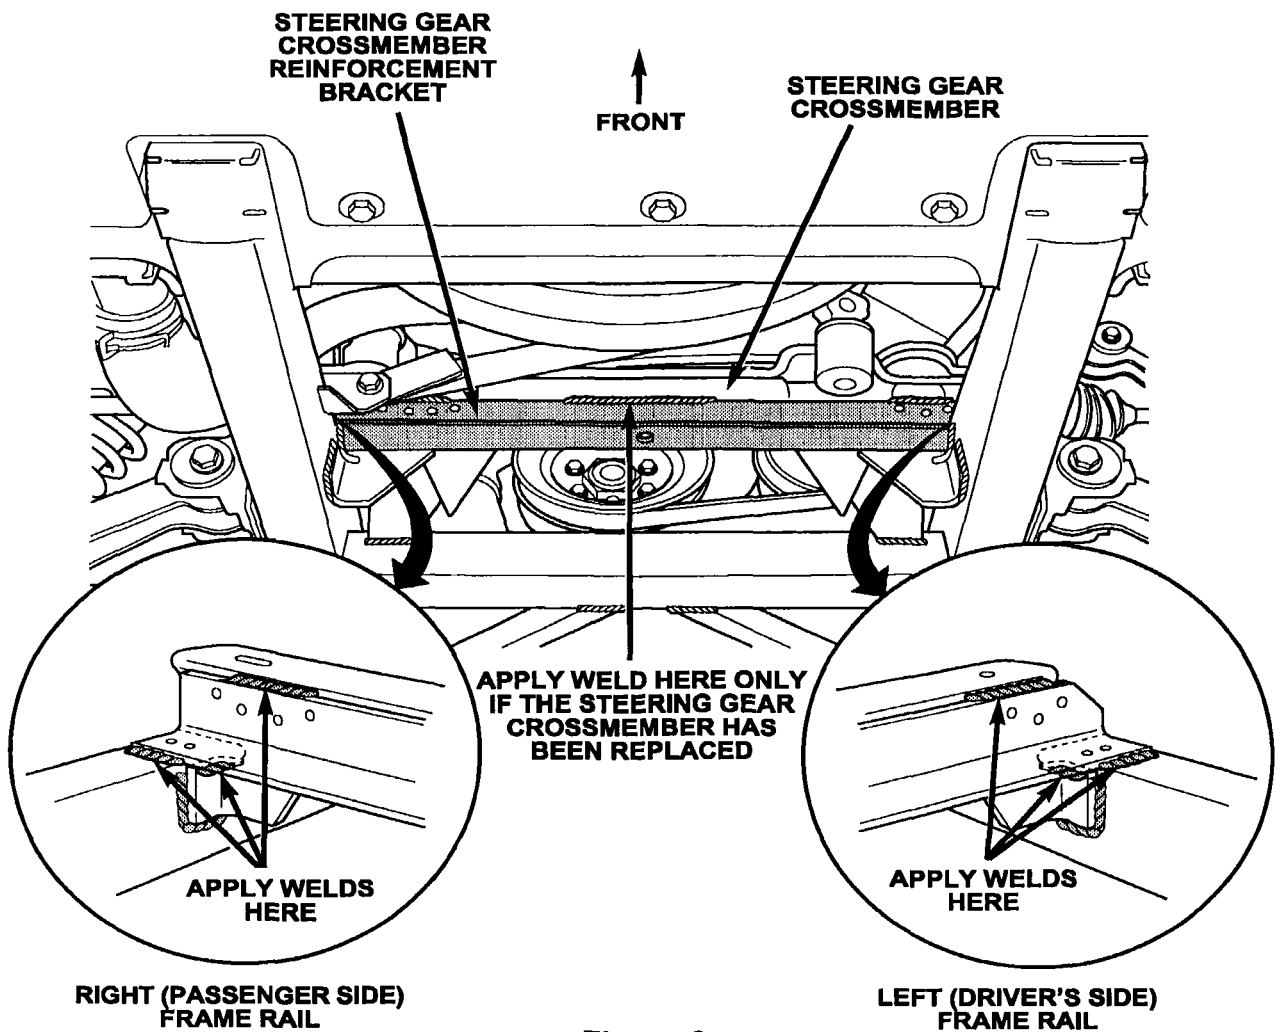

Figure 9
5. Place the steering gear reinforcement bracket into position, just in front of the steering gear crossmember and on top of the frame rails (Figure 9). The reinforcement bracket must be centered between the frame rails.
6. Mark all of the locations on the steering gear crossmember, frame rails and reinforcement bracket where welding will be performed with a grease pencil (Figure 9).
12. Weld the reinforcement bracket to the frame rails and steering gear crossmember as shown in Figure 9.
NOTE: Vehicles that have had a new steering gear crossmember installed must have an extra weld applied as shown in Figure 9.